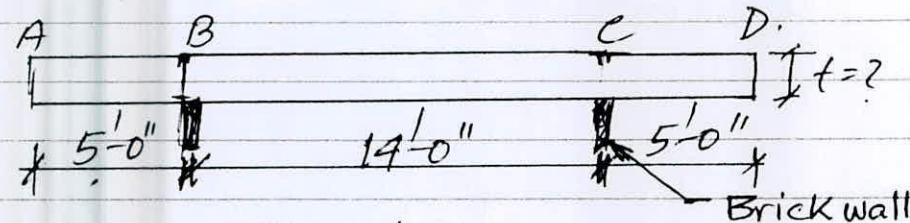

Fig. 1
1. (a) A 14 ft clear span one way slab with an overhanging cantilever span of 5 ft on both sides as shown in Fig. 1 is to be designed. The slab supports live load 100 psf in addition to its own weight. Assume partition wall (pw) load 60 psf and Floor Finish (FF) load 30 psf. Design the slab for maximum positive and negative moments considering live load can occupy any position in the slab. Show reinforcement details in neat sketches. Material strengths are: $f'_c = 3.5$ ksi and $f_y = 60$ ksi. (25)